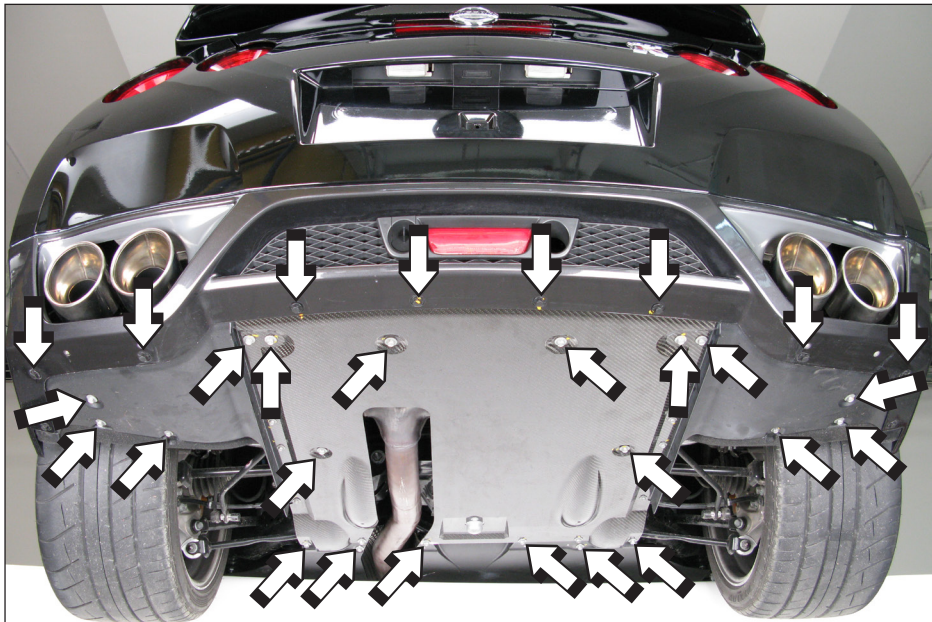

Figure 1
1. **For Slip-On and Evolution:** unscrew the bolts, undo the plastic fasteners and remove the panels off the vehicle (Figure 1, 2).